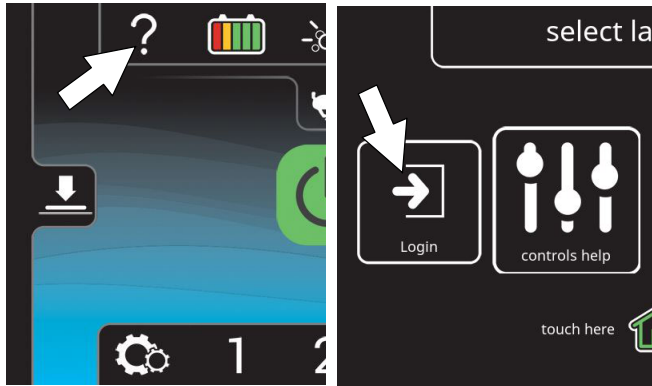

FIG. 159
2. Press the help button and log into the machine as supervisor mode (Figure 159). See *Entering the Supervisor Mode*.